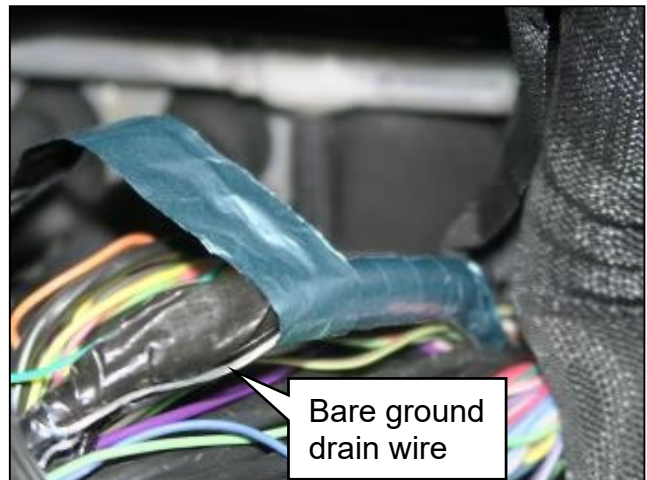

Figure 24
- c. **Making sure the blue side is visible**, wrap the aluminum tape around the transmission power supply wire and the bare ground drain wire (Figure 24).